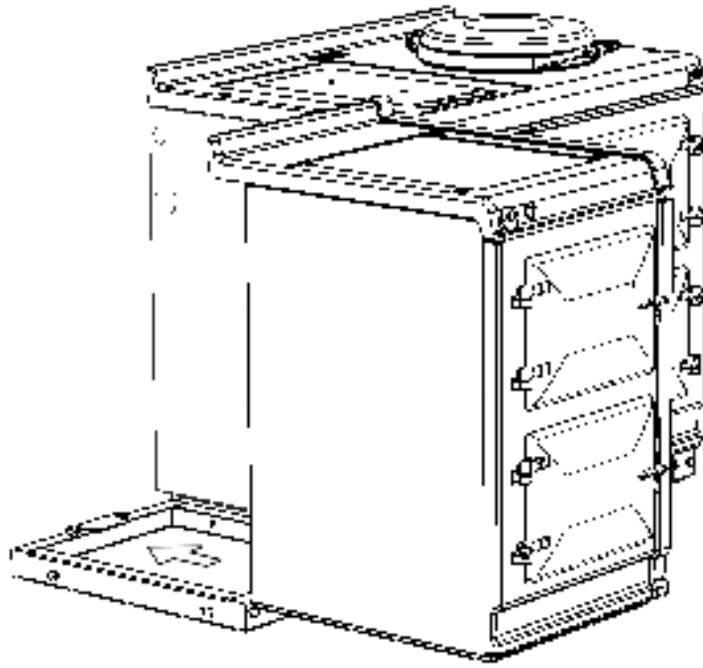

Fig. 5.7
6. Slide hotcupboard onto plinth until rear tongue bracket engages fully into rear of base slot, (**Fig. 5.7**). Ensure the appliance is aligned squarely with the plinth then proceed to engage the front tongue bracket into the slot on the underside of the base plate. Once satisfied that the front tongue bracket is engaged fully lock it into place by tightening the two M6 screws fully.